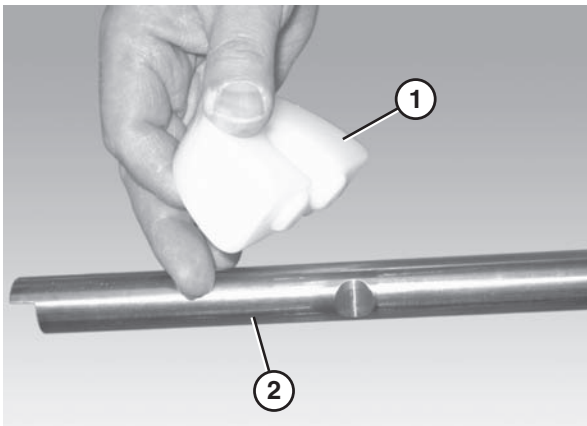

Figure 48
1. Attach the chain return shoes (Figure 48, item 1) to the return shaft (Figure 48, item 2).